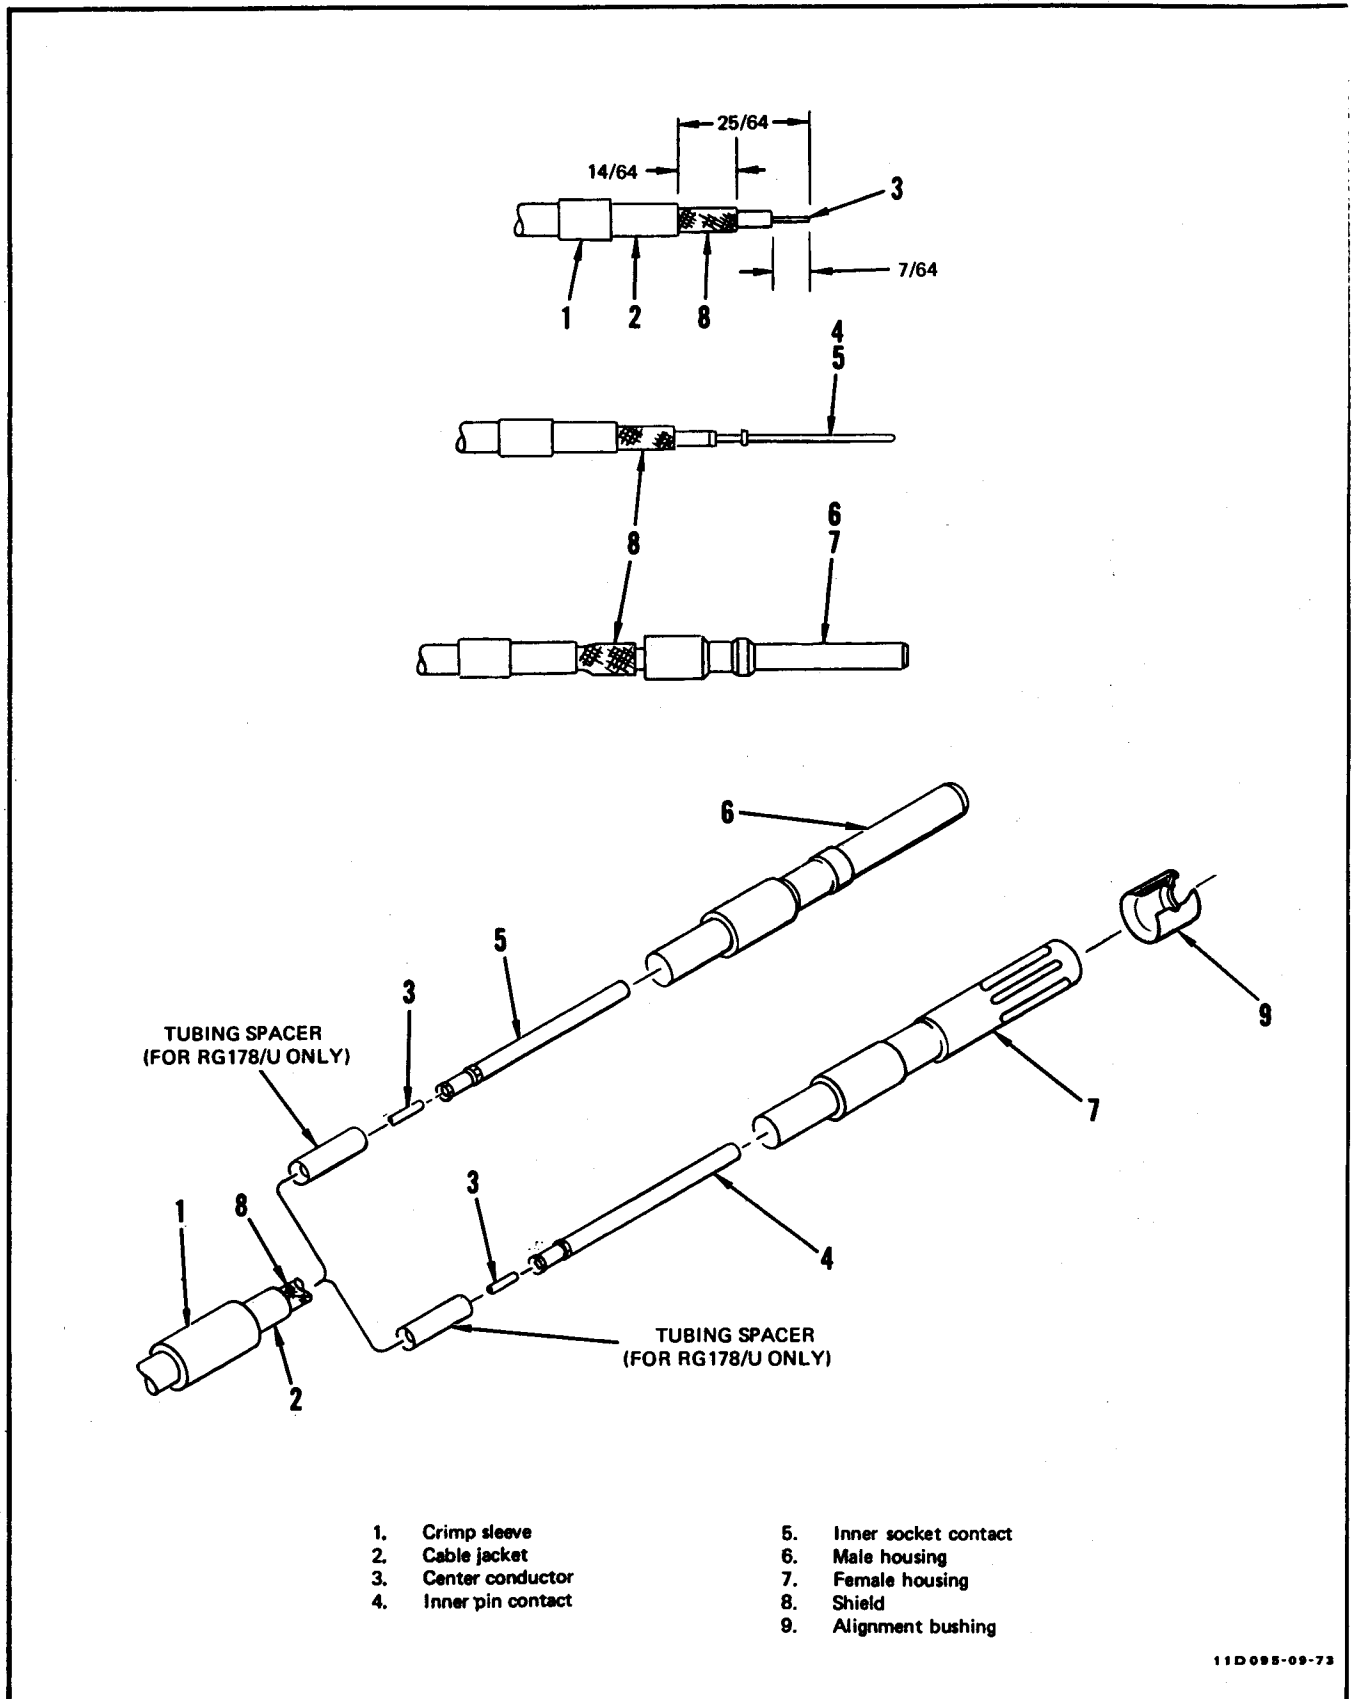

Figure 11-38. CVC6092, CVC6093, CVC6095, and CVC6096 Series Connectors - Coaxial Contact Repair
b. Prior to removal of female housing (7, figure 11-38), remove alignment bushing (9) using TM0179RT000 extraction tool. When extraction tool is not available, a sharp pin or equivalent may be used. Discard alignment bushing.
11-97. Contact Repair. (See figure 11-38.)
a. Grip cable assembly close to rear of pin contact (6) or socket contact (7) and start contact into proper insert hole.
e. After all pins are inserted, install interfacial seal (5) as follows:
1. Use a blank mating connector half, with center jack screw (2) removed to guide seal onto pins.
f. Insert new alignment bushing (9, figure 11-38) over female housing (7), large diameter first. Push bushing down until shoulder is seated against rim of female housing.